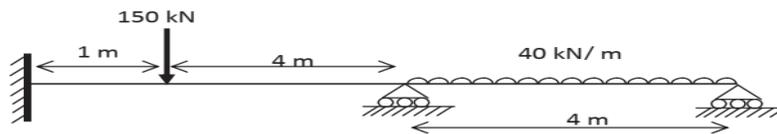

Fig.3
9. Analyse the beam shown in Fig.3, using flexibility method and draw S.F.D and B.M.D. Assume EI is constant.